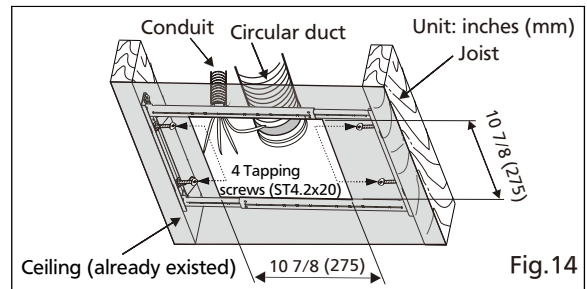

Fig. 14
1. Remove the existing fan and cut ceiling opening. Secure the Flex-Z Fast™ bracket to joists by drilling 4 tapping screws (ST4.2x20) which have been fixed on it. Existing ductwork and wiring left in place. (Fig.14)